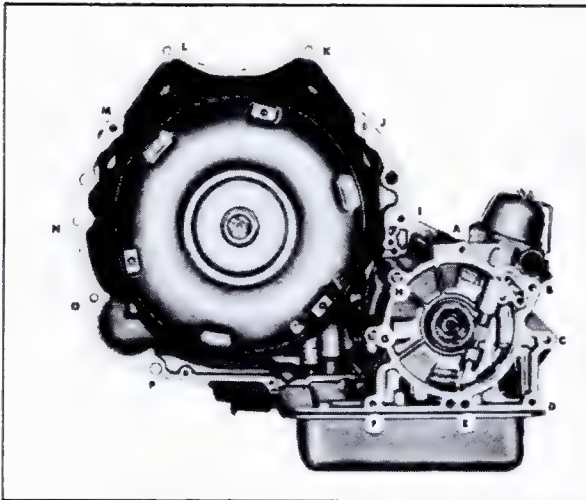

Fig. 7-148 Transmission Attaching Bolt Locations
28. Transmission Removal and Installation (Fig. 7-148)